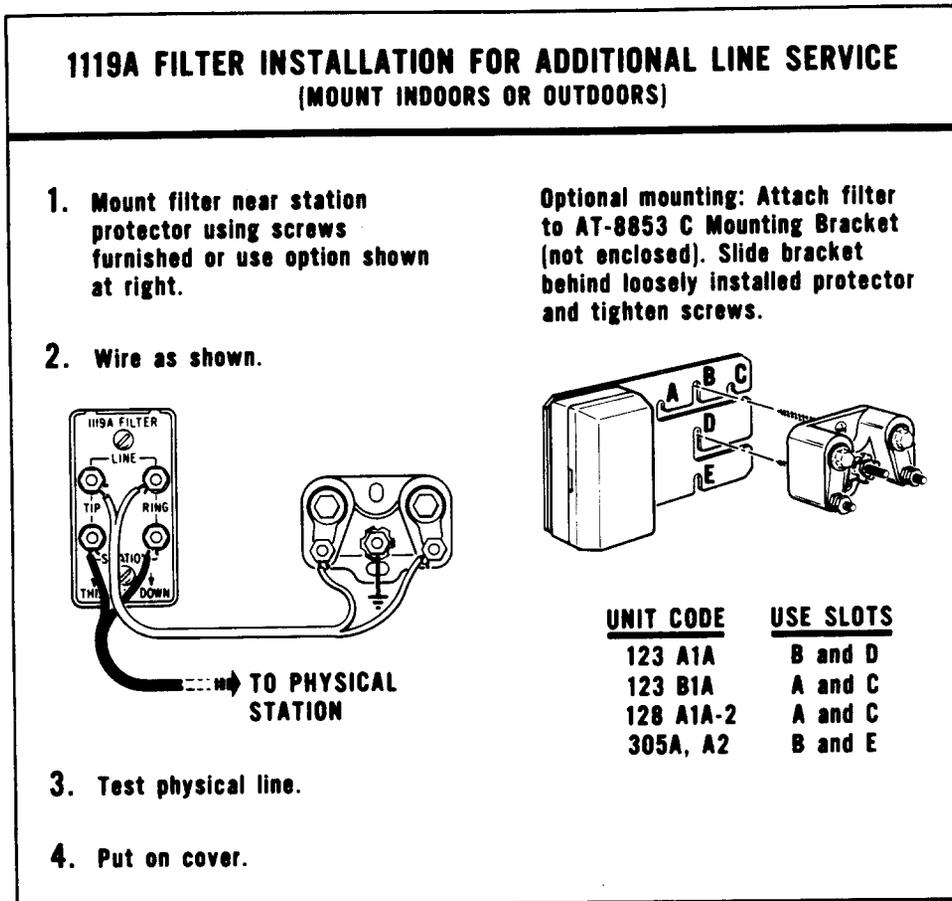

Fig. 8—Label Showing Installation of Filter for ADL Service With NT1 or NT2 Subscriber Units
C. With NT1 (SLC-1A) or NT2 (SLC-1B), Fig. 8